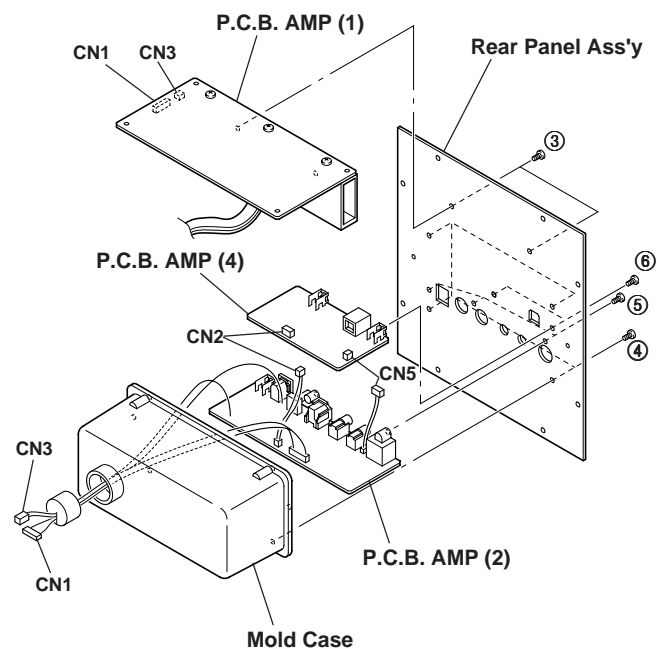

Fig. 3
- Remove 2 screws (③) in Fig. 3, and remove the P. C. B. AMP (1) from the rear panel ass'y.
- Disconnect 2 connectors (CN1 and CN3) from the P. C. B. AMP (1) in Fig. 3.
- Remove 4 screws (④) in Fig. 3, and remove the mold case from the rear panel ass'y.
- Remove 3 screws (⑤) in Fig. 3, and remove the P. C. B. AMP (2) from the rear panel ass'y.
- Remove 2 screws (⑥) in Fig. 3, and remove the P. C. B. AMP (4) from the rear panel ass'y.
- Disconnect 2 connectors (CN2 and CN5) from the P. C. B. AMP (4) in Fig. 3.